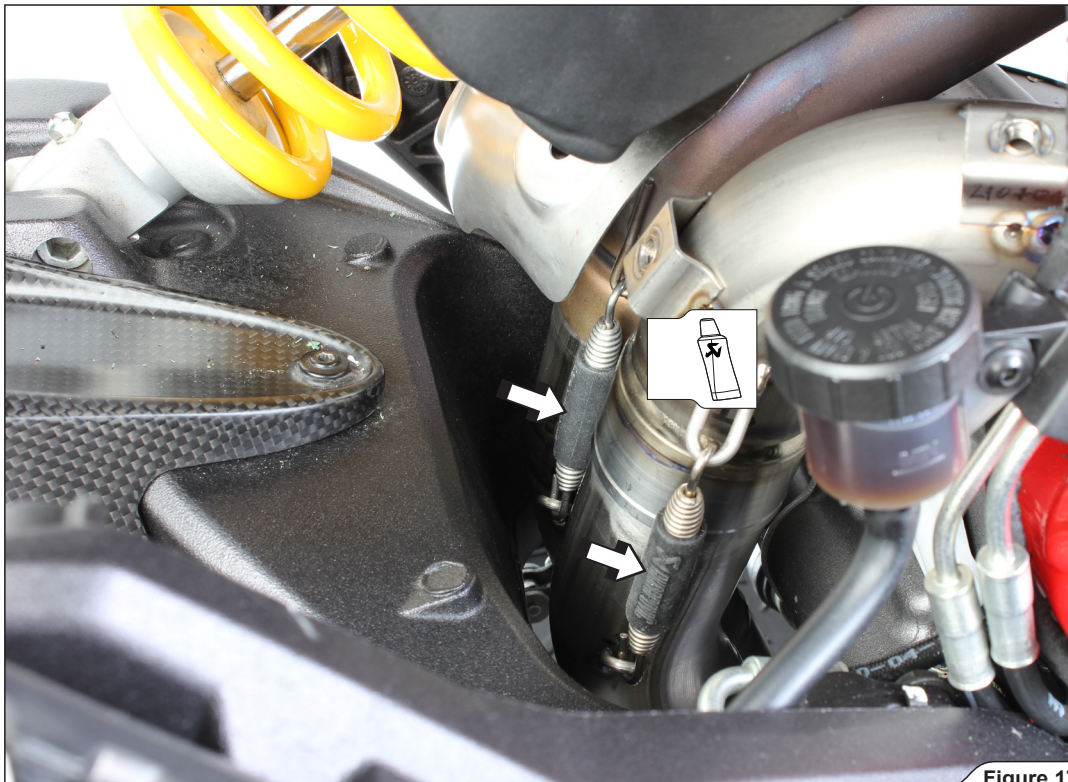

Figure 17
4. Slide the collector onto the headers and attach the springs (Figure 17).